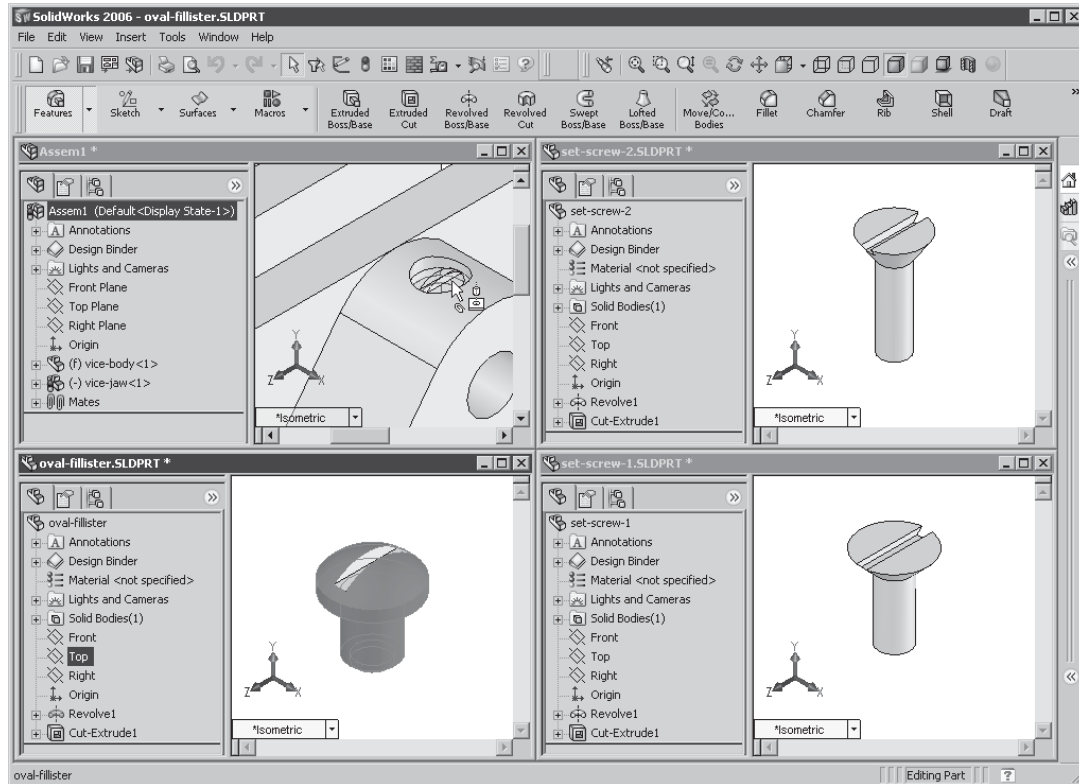

Figure 11-72 Dragging the Oval Fillisters in the assembly using feature-based mates
3. Select the **Revolve1** feature from the **FeatureManager Design Tree** of the Oval Fillister part document. Drag the cursor to place the component in the assembly, as shown in Figure 11-72.